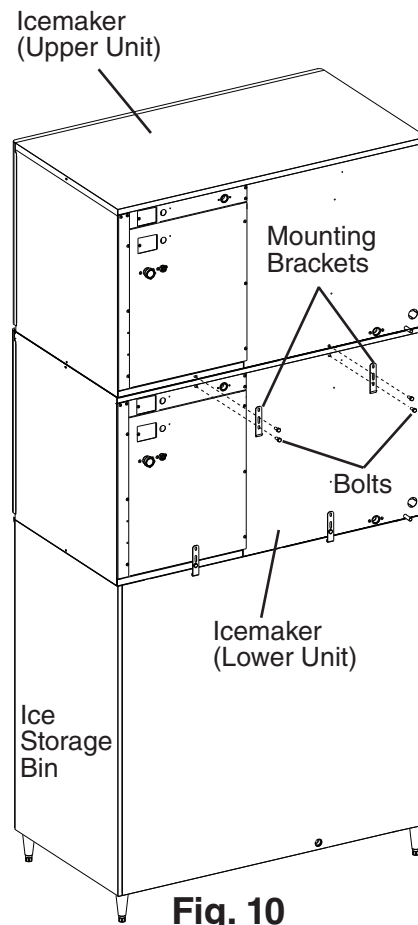

Fig. 10
- 6) Secure the upper unit to the lower unit using the 2 mounting brackets and the bolts provided. See Fig. 10.